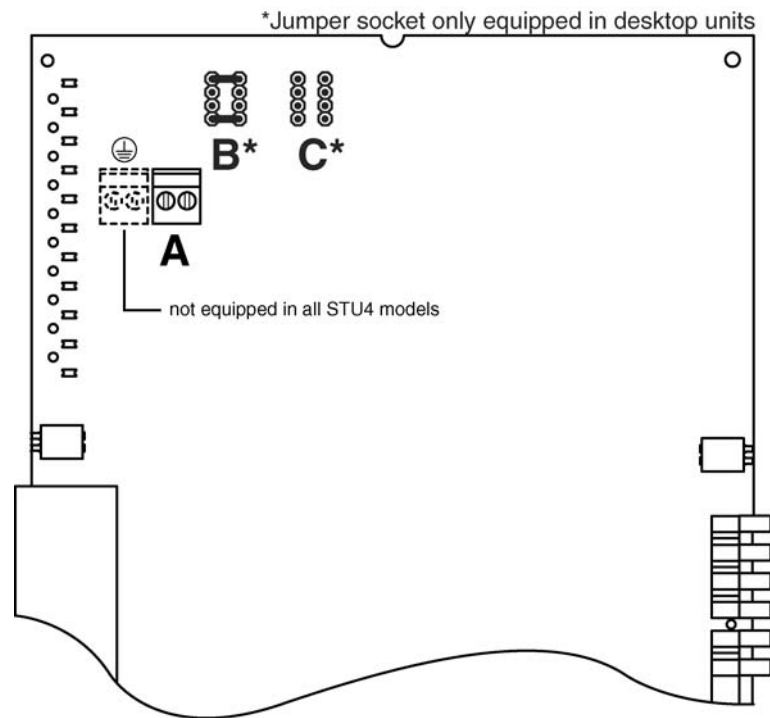

Fig. 2.157 Jumper settings: STU4 desktop unit local supply; AC or DC
6. Set the jumpers according to Chapter 2.12.6, Fig. 2.157 to battery supply (48 V_{DC}). If you are using a desktop you must set jumper S604-9 “ON”